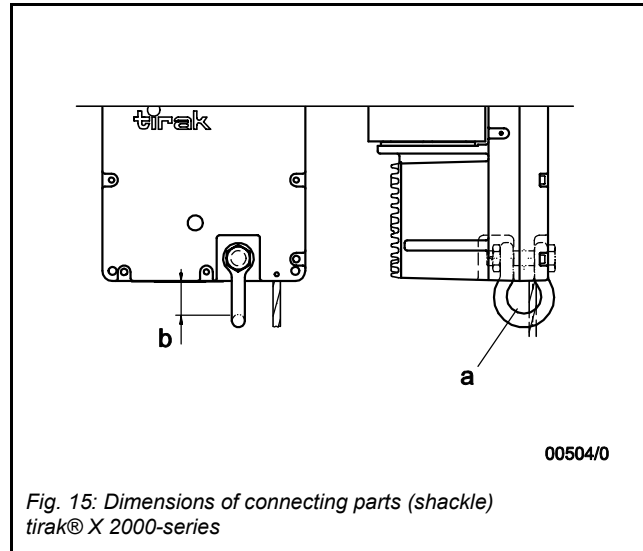

Fig. 15: Dimensions of connecting parts (shackle) tirak® X 2000-series
- (1) Fix the hoist using for example a shackle (see Fig. 15). Make sure that the hoist is held in its upright position by means of an appropriate support.